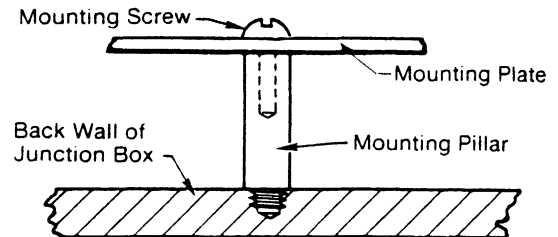

Figure 1
4. Install mounting pillars into backwall (bottom) of junction box by threading into tapped hole(s). Install mounting plate on pillars using screws provided; securely tighten screws. See Figure 1.